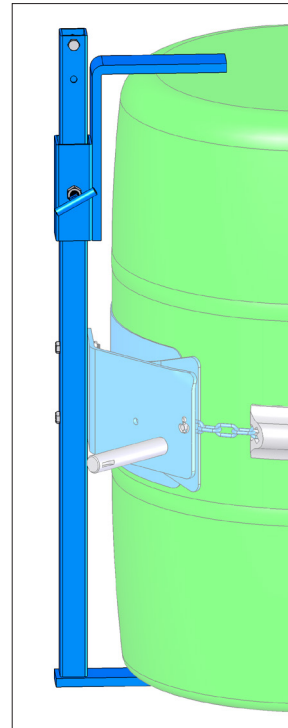

Figure 2.1
1. **Bracket Assembly Kit # 4556M-P** is required to handle a RIMLESS plastic drum (figure 2.1), and is also recommended for a fiber drum. The Bracket adjusts for a 31" to 39" (79 to 99 cm) tall drum. You can also handle a rimmed drum with the Bracket installed.